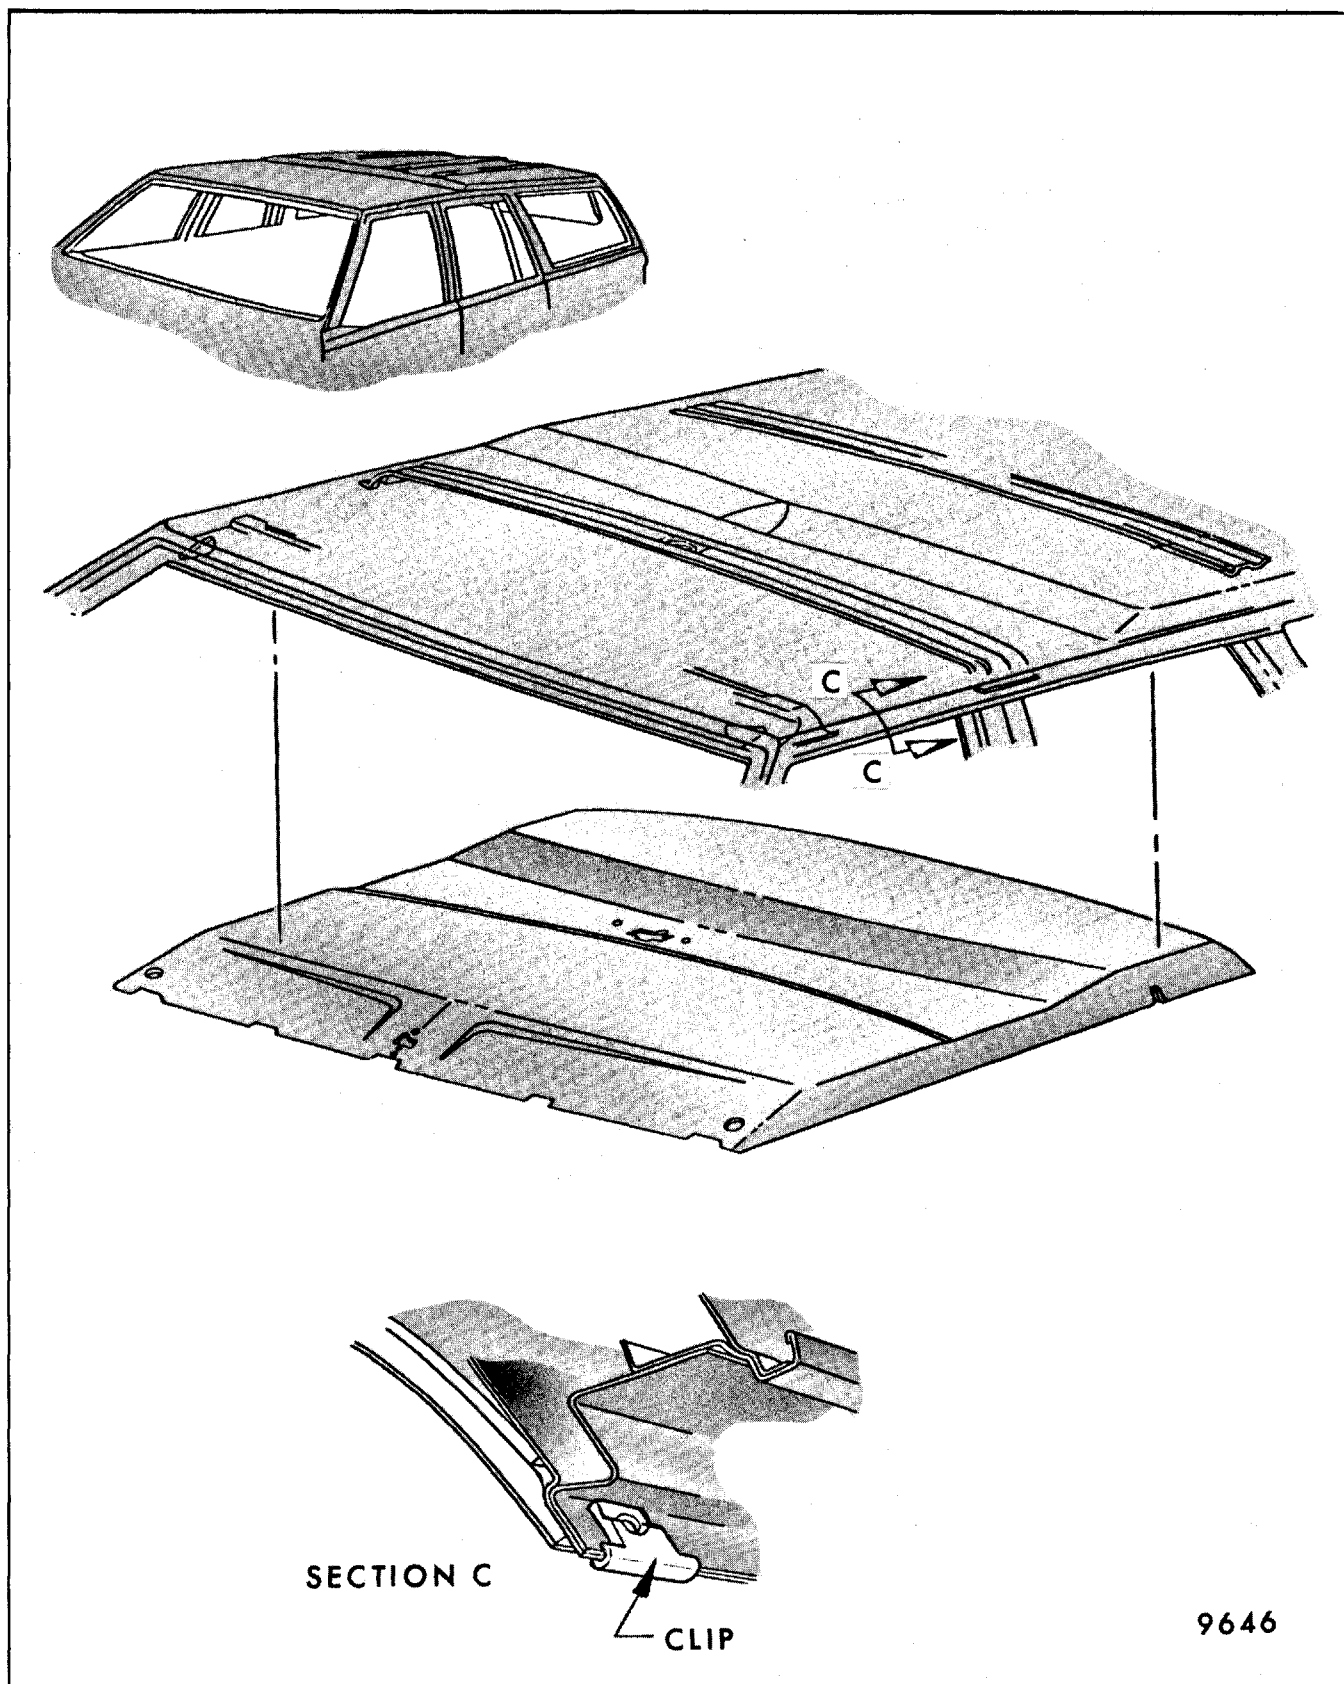

Fig. 8-3 - Headlining Front Section Assembly - B-35 Style (A- 35 Similar)
The one-piece construction requires the headliner be serviced as a complete assembly in all cases. The station wagon headlining differs in that either front or rear section can be serviced without disturbing the opposite assembly. See Figures 8-3 and 8-4.
5. On A,B and C styles, install side roof rail attaching clips as shown in Figures 8-3, 8-4 and 8-5.